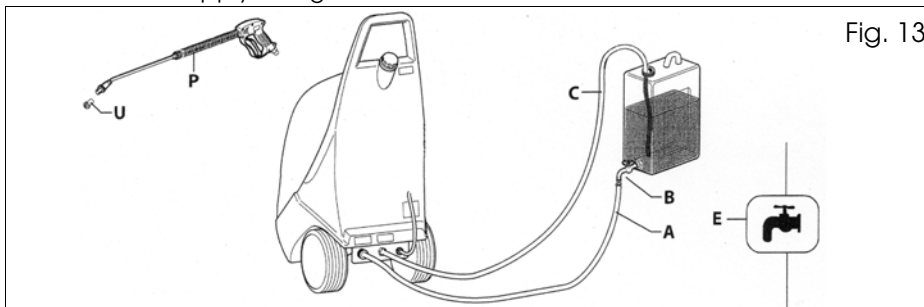

Fig. 13
CLEANING THE INSIDE OF THE HEATING COIL (FIG.13)
2. Connect the inlet hose (A) to the tap (B) of the container. See fig. 13.
3. Place the end of the high pressure hose (C) in the container.
5. After cleaning, disconnect the hose (A) from the tap (B) and connect it to the mains water tap (E). See fig. 13.
6. Remove the end of the high pressure hose (C) from the container and connect it to the gun (P). See fig. 13.
7. Remove the nozzle (U) from the lance (P), turn on the mains water tap (E). Operate the power washer with the lance with no nozzle fitted until the water flowing from the hose runs clear.
8. Replace the nozzle (U) on the lance and dispose of the water in the container.